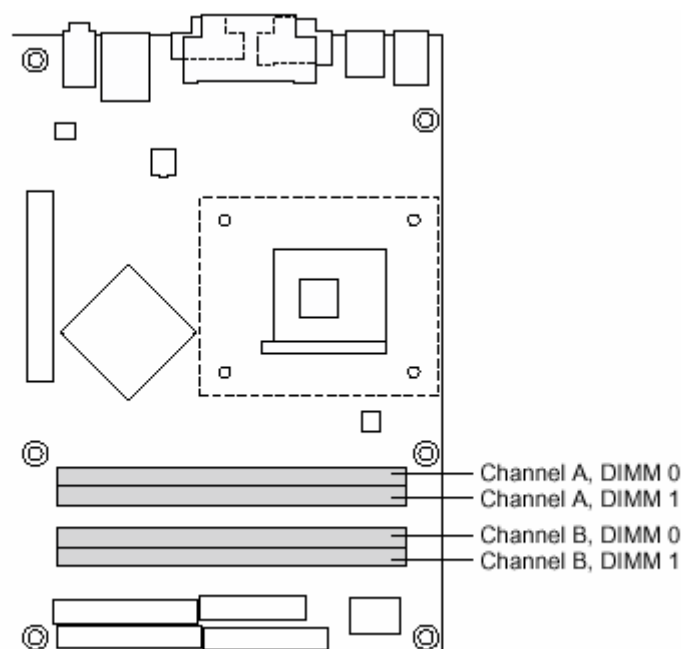

Figure 3: Memory Channel Configurations
- Dual Channel memory interface. The board has two memory channels, each with two DIMM sockets, as shown in Figure 3